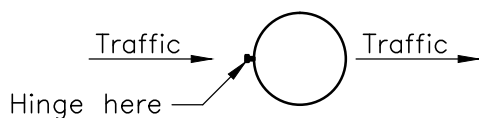

Fig.1
7. Manhole covers in the road shall be constructed so that the cover hinge is facing the oncoming traffic. ( Refer Fig 1 )
4. Manhole covers in road shall be constructed so that the cover hinge is facing the oncoming traffic. ( Refer Fig.1 )